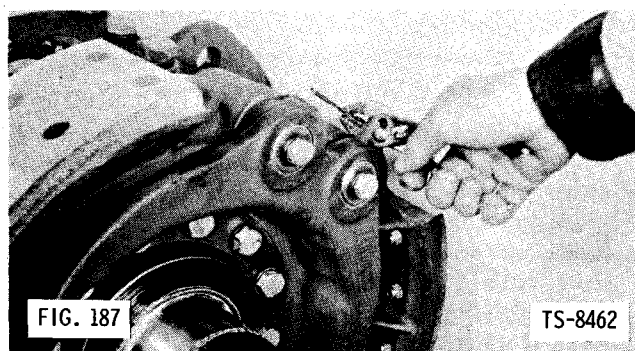

FIG. 187
28. Lock brake shoe anchor pins with brake pin setscrews. Lockwire setscrews (Fig. 187).